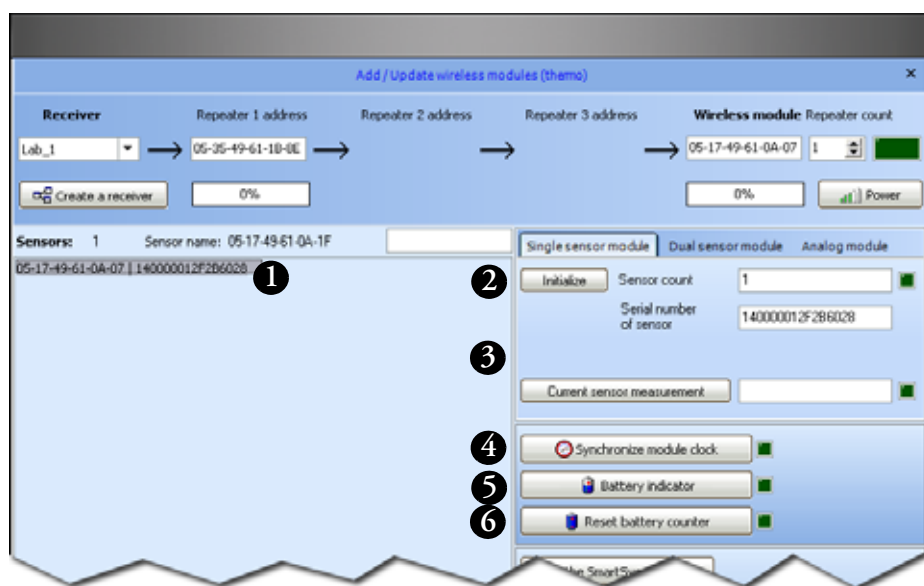

Figure 36. Resetting end-point module after battery change
4. **Select the sensor (#1 in Figure 36) for which you have changed the battery.**